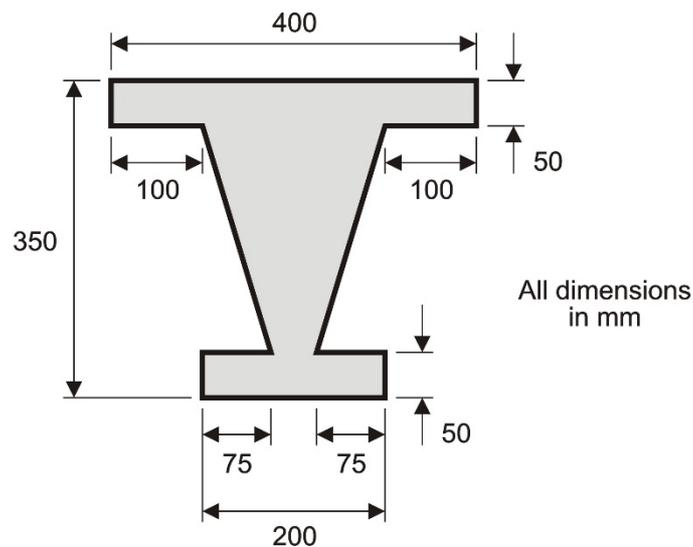

Figure Q4: Bar cross-section.
4. A bar has the cross-section shown in Figure Q4 and is loaded by a force which acts in the downward direction. At a position along the bar the bending moment (M) acting is 50 kN m. The second moment of area for common shapes given in the List of Equations.